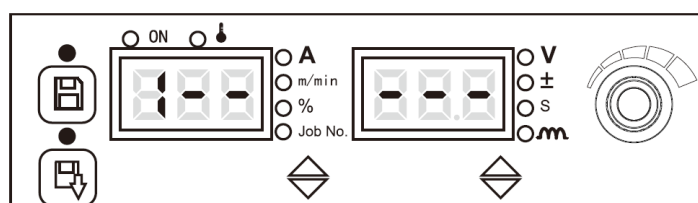

Figure 3-23 Screen for setting new password
3. On the screen for setting new password, the digital tubes will display “**1 - - - -**”, as shown in Figure 3-23, and adjust the knob on the panel of welding power source, and enter a new password for each digital position, then press the **Invoke** key for confirmation.